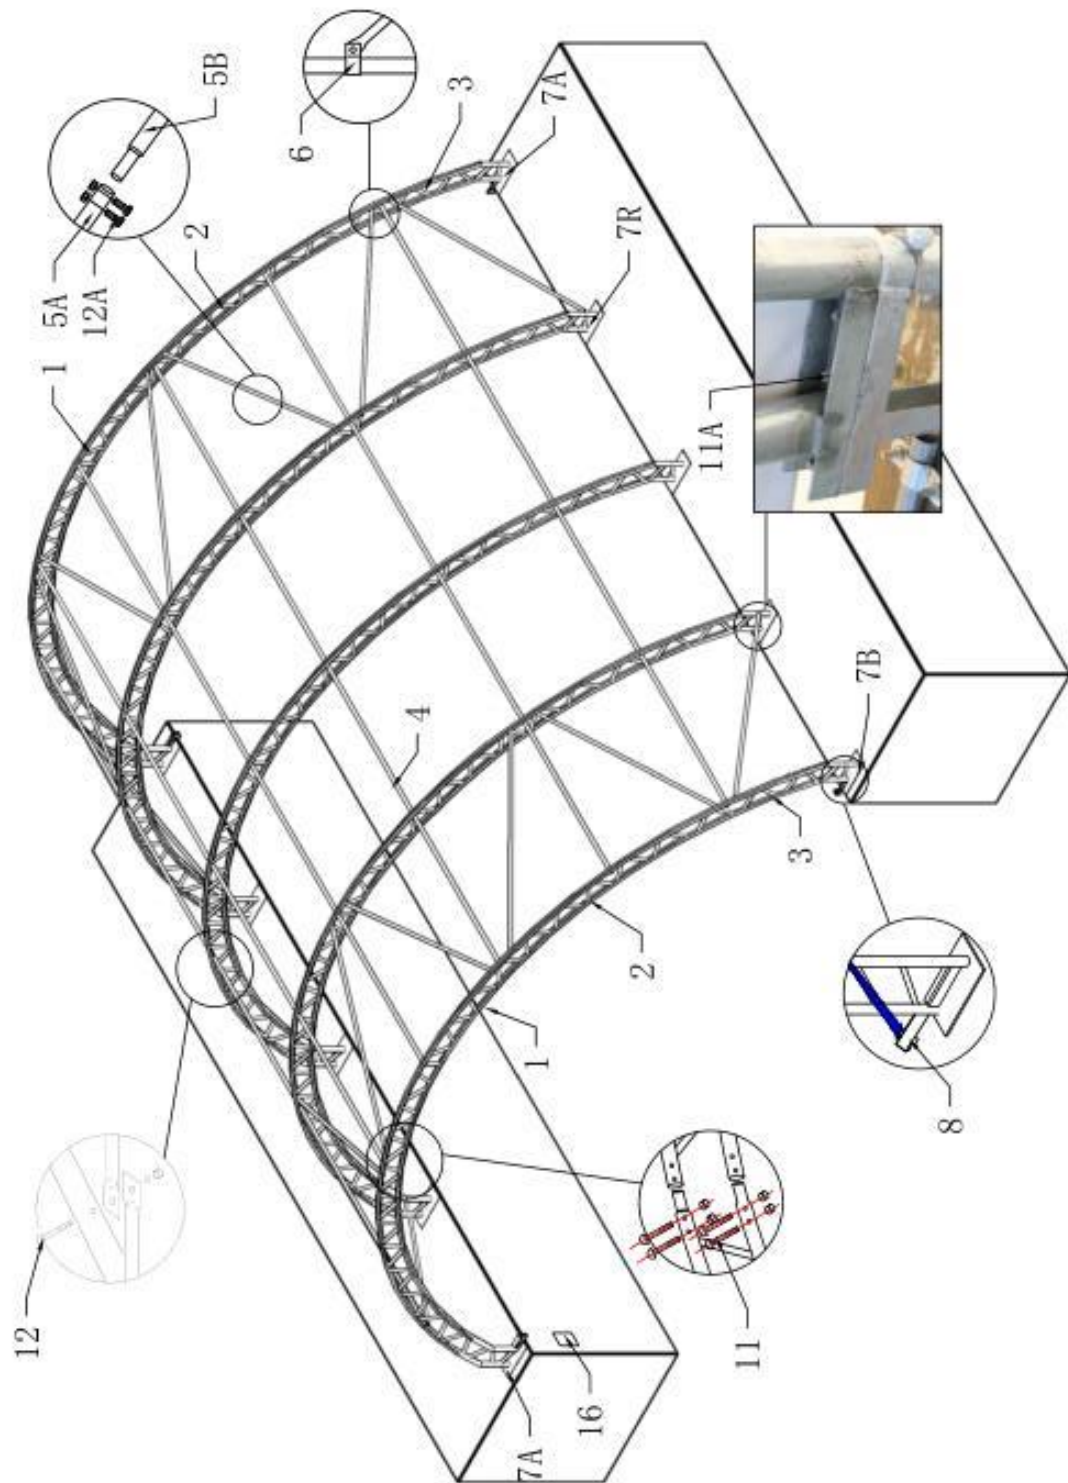

Figure 2: Size: L12 x W12 x H4.5m
3. After finish installing the first two arches, connect the Connection purlin on them by using Bolt10*80. Then install the third arch into base plate and connect other purlins. Finally install the Steel bracing tube (NO.5a and 5b) as per Figure 2 using Bolt M8*80 mm (12a)